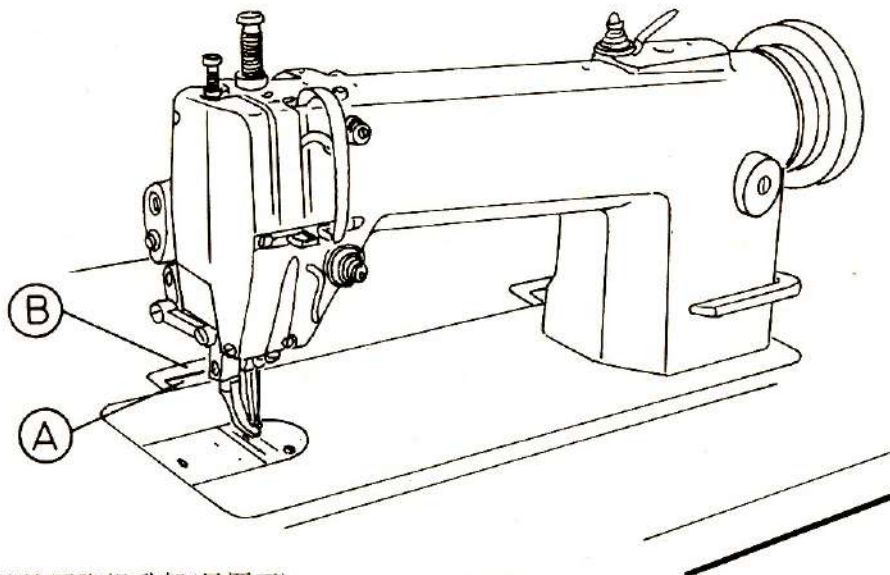

Fig.2
(3) Installing the machine head (fig.2)